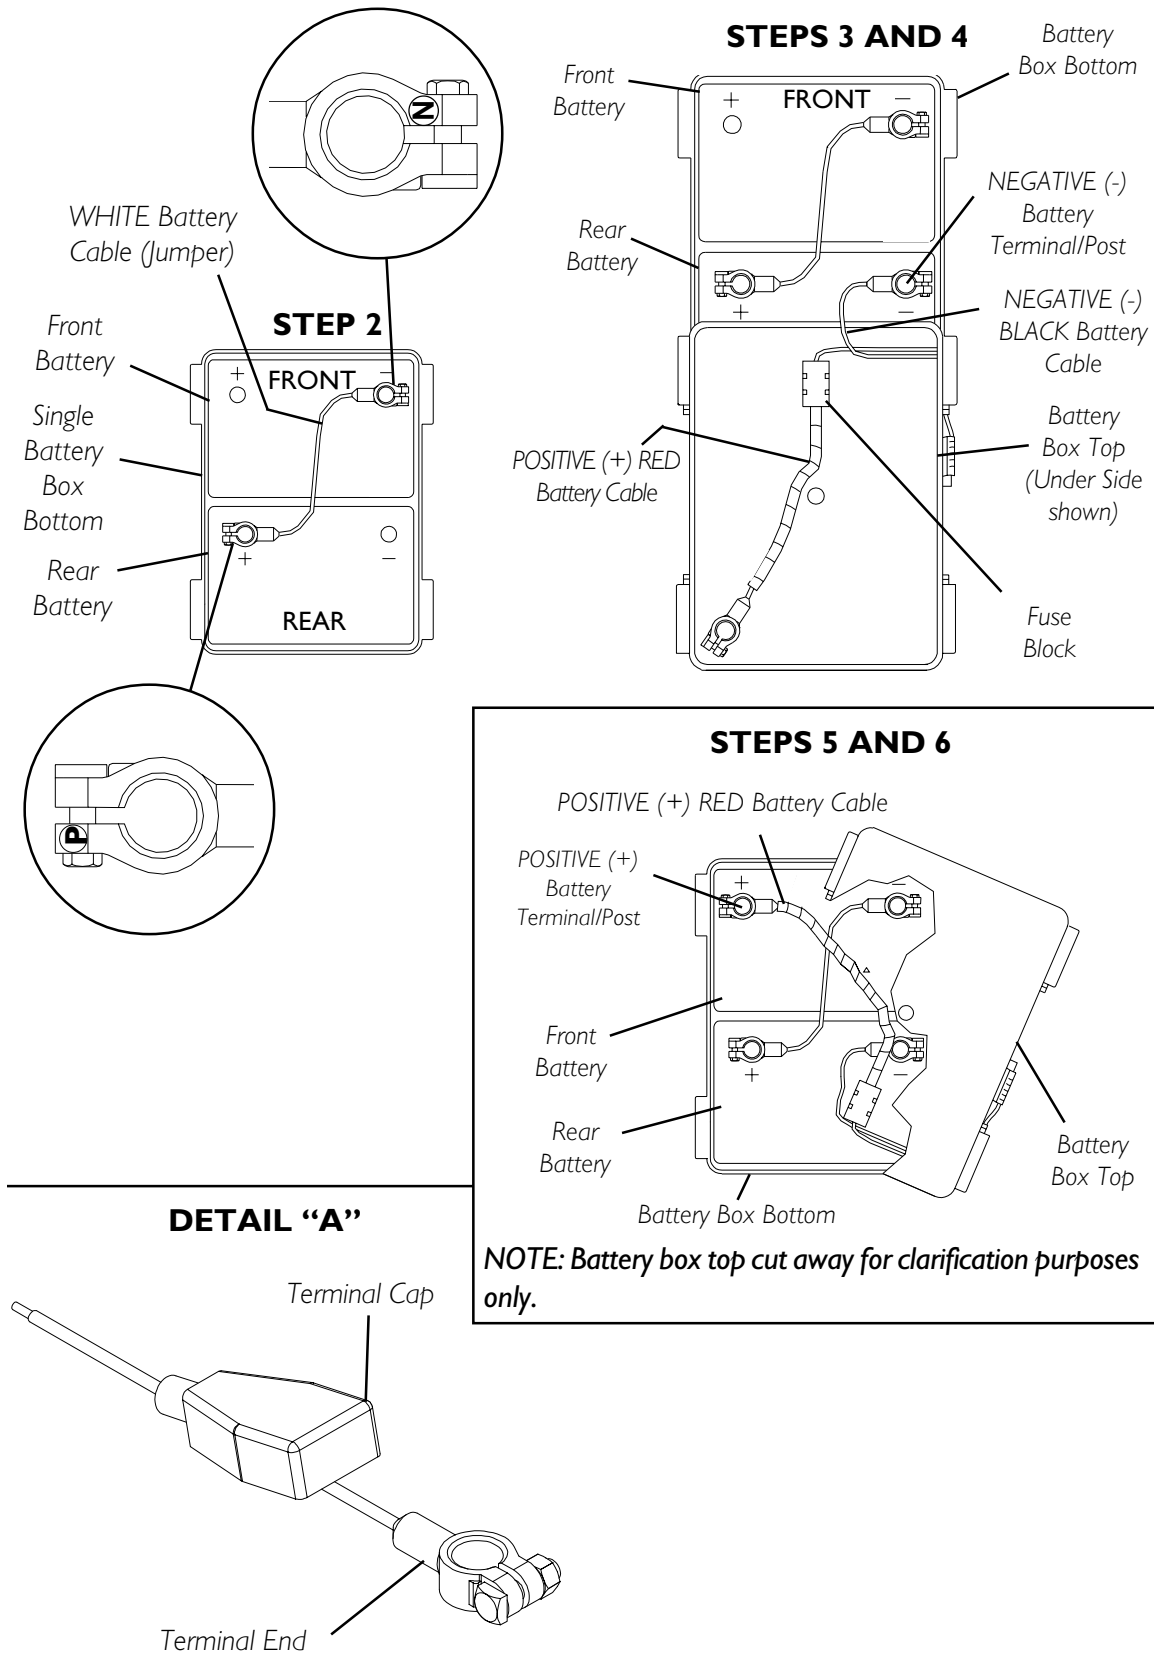

FIGURE 3 - CONNECTING BATTERY CABLES - SINGLE 22NF BATTERY BOX
22NF BATTERIES IN SINGLE BATTERY BOX (FIGURE 3)
1. Remove battery terminal cap(s) from battery terminal(s) ends. Refer to DETAIL “A” in FIGURE 3.